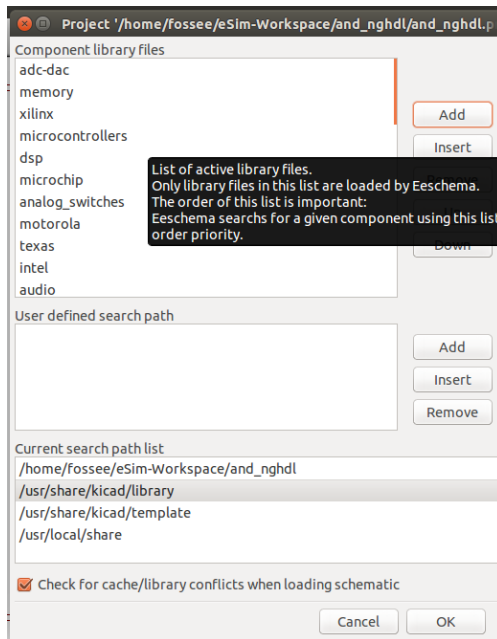
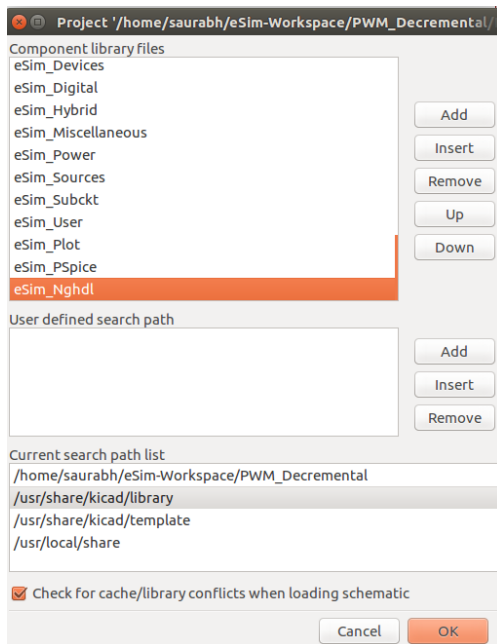

Figure 9.6: Adding the digital model library in KiCad
Figure 9.7: Selection of library
2. After successful upload of the model using the VHDL code, you can create the schematic of your design by clicking on **Open Schematic** button on the left pane of the eSim window. Then go to **Preferences** option on top of the schematic editor window and click on **Component Libraries** to add the library eSim_Nghdl.lib in KiCad. Following window will appear as shown in Fig. 9.6, where you will have to click on **Add** button and select the eSim.Nghdl library. Refer Fig. 9.6 and Fig. 9.7.